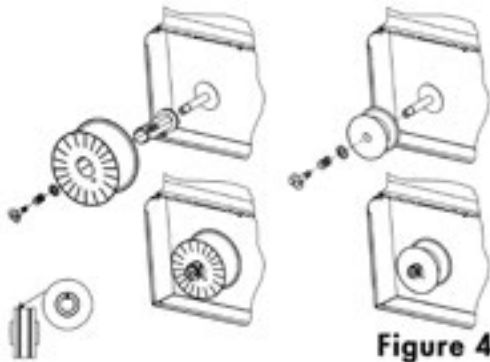
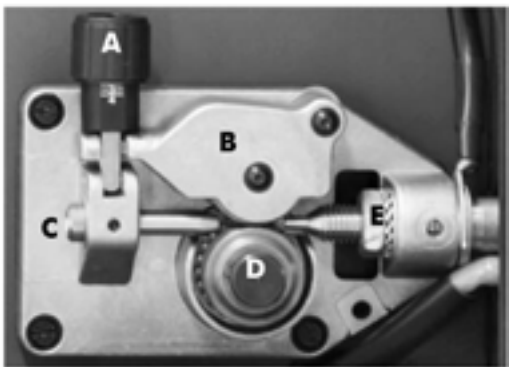

Figure 4
Figure 5
- Loosen the nut of the spool holder (brake drum) and remove the spring and the external ring. (Fig.4)
- Remove the plastic protection from the spool (4) and place the wire spool on on the spool holder.
- Loosen and lower the plastic knob (A) (Fig.5). Open the pressure arm (B) of the feeder
- Disconnect the wire from the edge of the wire spool being careful to keep tension on the end of the wire. Cut off a short section of the end of the wire to insure a straight end. Insert the straight end into the wire inlet guide (C) past the wire feed roll and into the wire liner. Lower pressure arm (B) and lift pressure adjustment